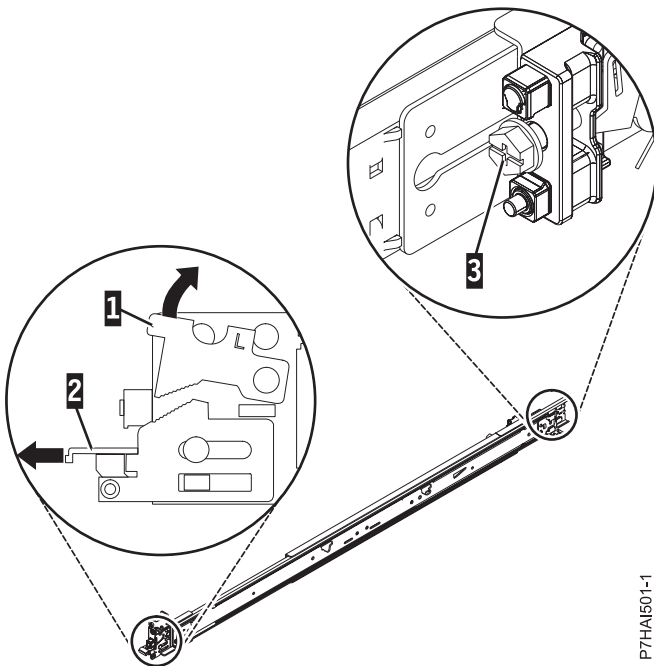

Figure 4. Opening the front latch and removing the rear screw
2. Push up on the front locking tab (1), and pull out the front latch (2) at the front of the rail. Then remove the screw from the rear of the rail (3), as shown in Figure 4.